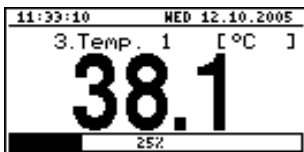

Fig. 6.4. "Single channel" mode
- **"Single channel"** mode (Fig. 6.4) enables the last measurement for one of the measurement channels to be viewed in the numeric and graphic form (bar).